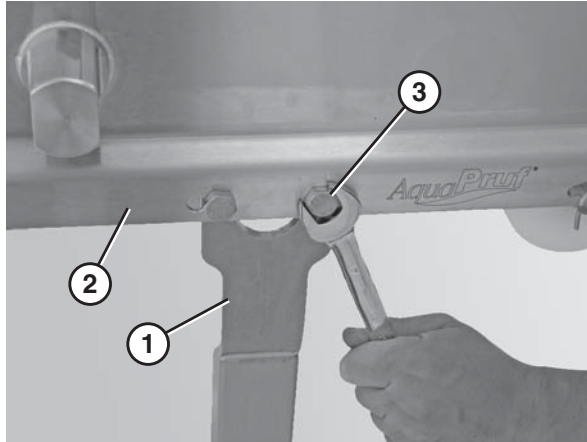

Figure 11
2. Attach the non-quick release side of the stand (Figure 11, item 1) to the MOTOR SIDE of the conveyor (Figure 11, item 2) using two M10-1.5 x 12 mm hex head cap screws (Figure 11, item 3).
3. Tighten the screws (Figure 11, item 3) to 80 in•lb (9 N•m).